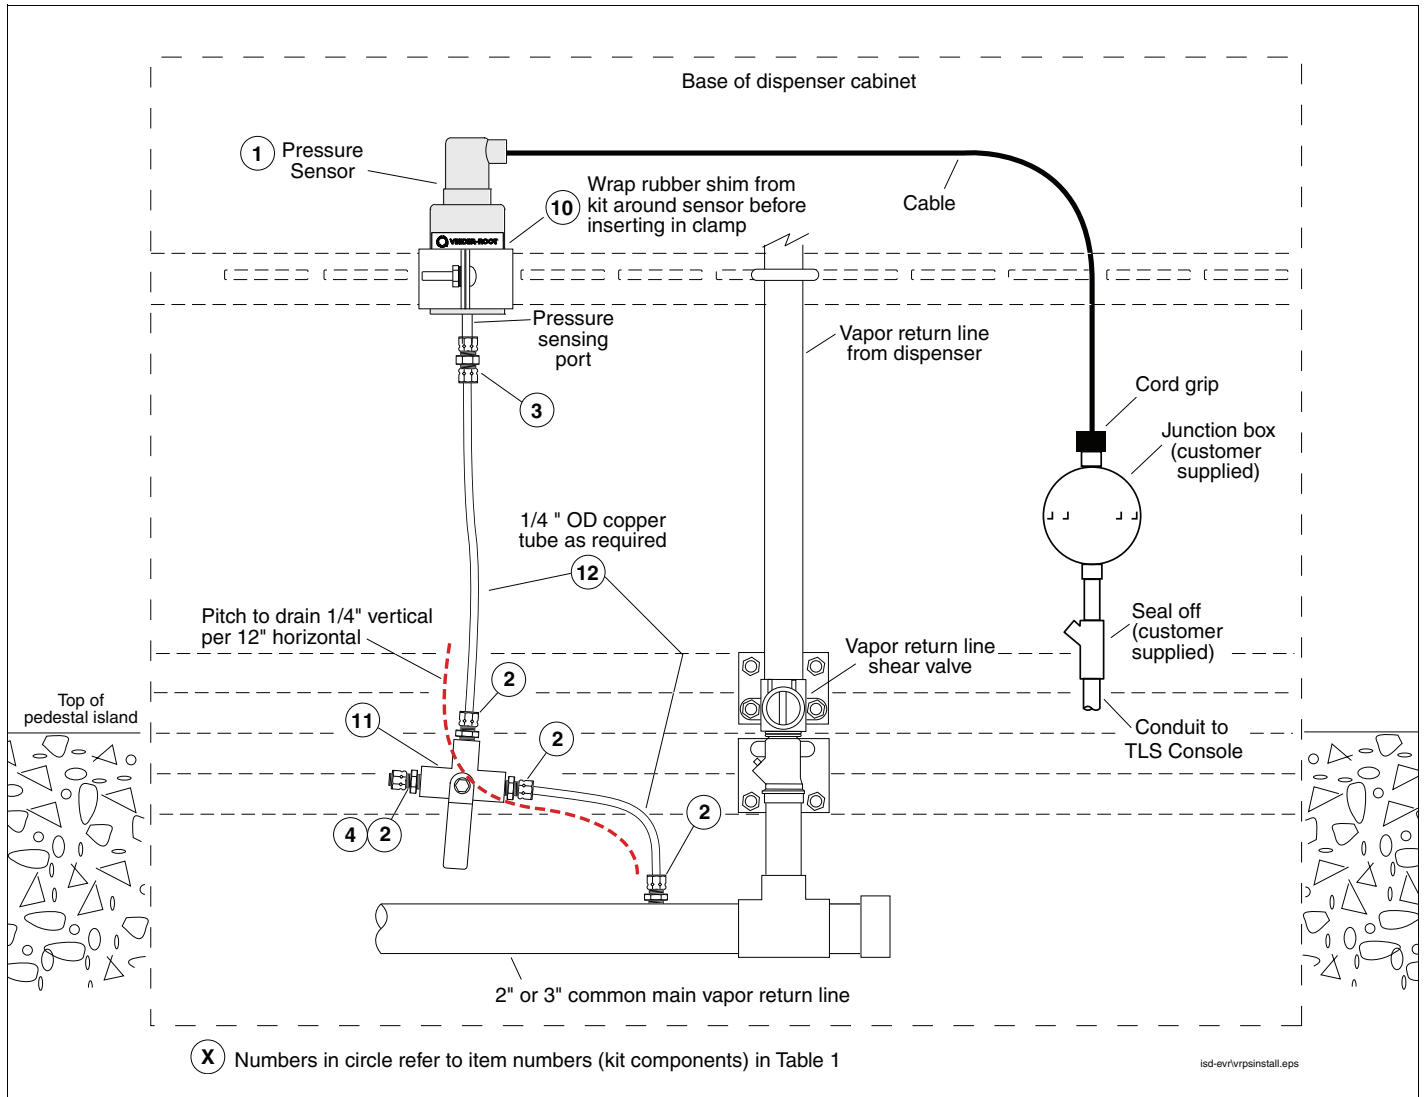
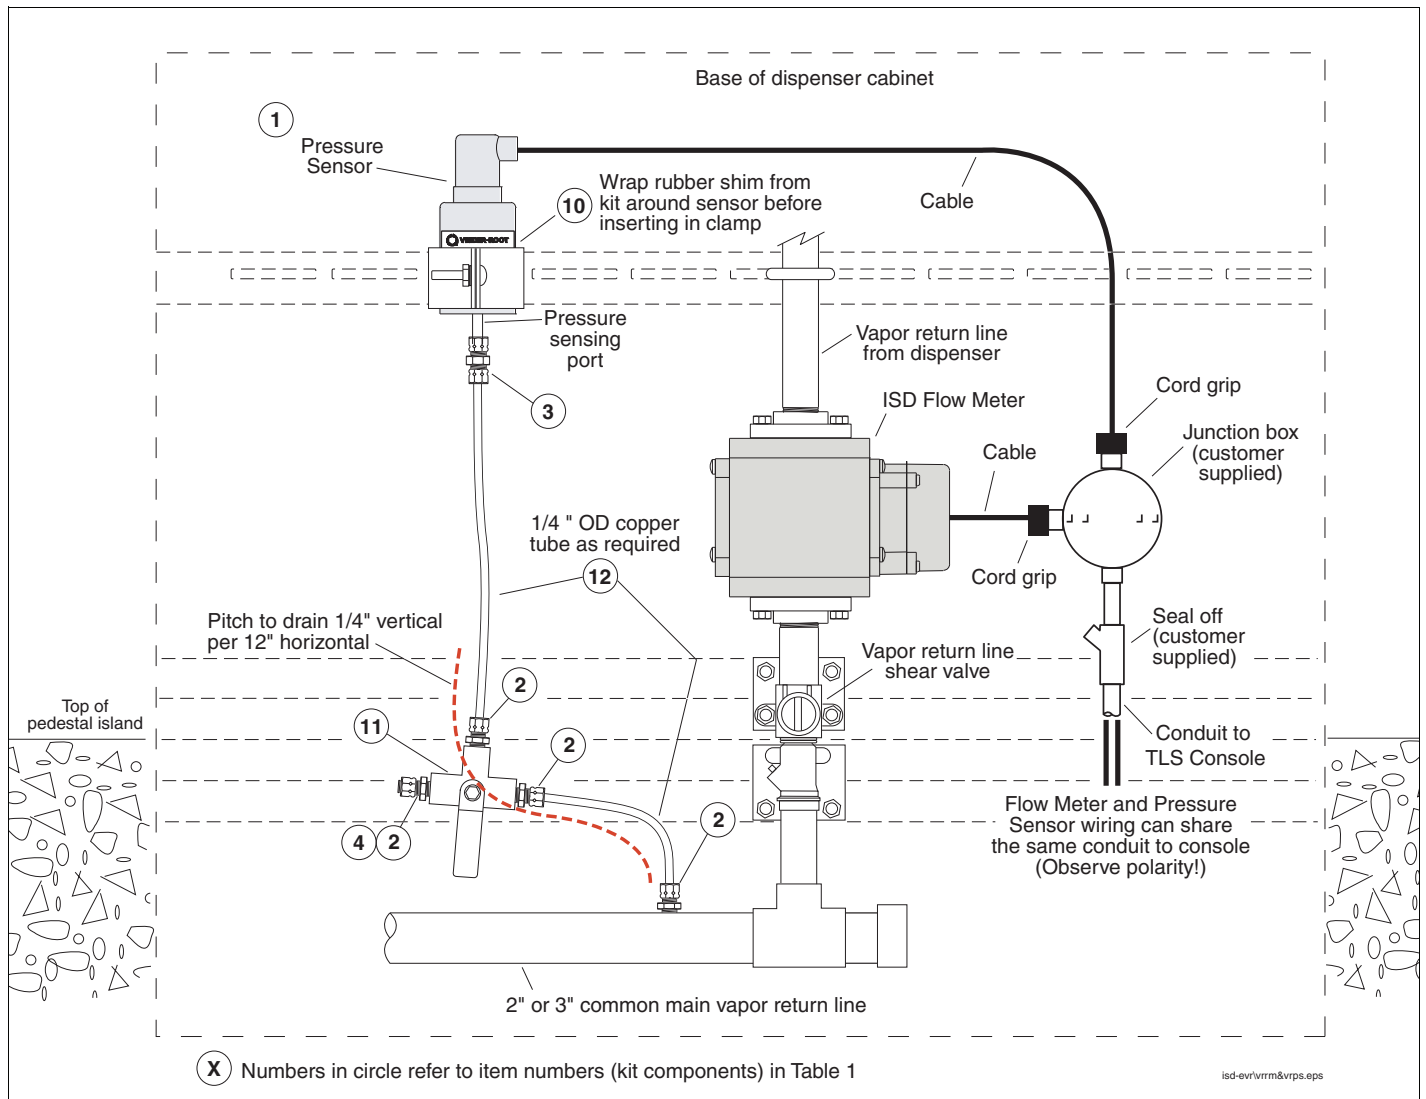

Figure 1. Example Pressure Sensor Install - Non-ISD Installation (without Vapor Flow Meter)
Figure 2. Example Pressure Sensor Install - ISD Installation (with Vapor Flow Meter)
- a. The main vapor return line (see Figure 1 or Figure 2 as required) - this is the preferred position,
4. Install one of the 68CA-4-4 male connectors (item 2 in Table 1) from the kit into the tapped hole.
5. Install Pressure Sensor (item 1 in Table 1) vertically to the dispenser frame or piping using the 2-inch conduit clamp, rubber shim, and necessary bolts, nuts, and washers from the included Universal Sensor Mounting kit. Wrap the rubber shim (item 10 in Table 1) around the sensor before inserting it into the clamp. Also make sure the sensor cable outlet is facing up and the pressure sensing port tube in the base of the sensor is facing down.
6. Attach one end of the 62CA-4 union (item 3 in Table 1) to the pressure sensing port in the base of the Pressure Sensor.
7. Install the remaining 68CA-4-4 male connectors (item 2 in Table 1) from the kit into each of the three ports in the 3-way calibration valve (item 13 in Table 1).
8. Measure, fabricate, and install a 1/4" OD copper tube (item 12 in Table 1) that runs between the 62CA-4 union in the base of the sensor and the center port of the 3-way calibration valve.
10. Screw the 59CA-4 plug, item 4, from the kit onto the last port's male connector. Make sure the valve's handle is set to connect the sensor to the vapor return line and not to the capped (ambient) port.